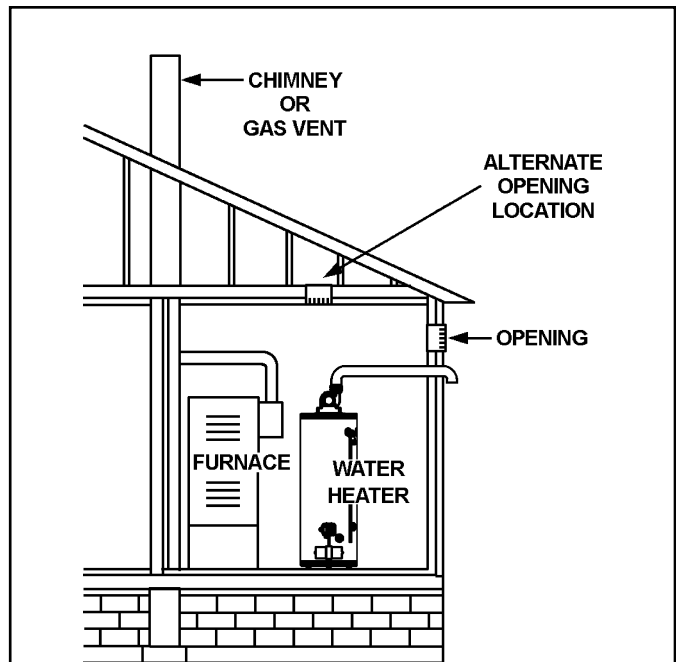

Figure 21
5. Alternatively a single permanent opening may be used when communicating directly with the outdoors, or with spaces that freely communicate with the outdoors. The opening shall have a minimum free area of 1 square inch per 3,000 Btu/hr (8.3 cm²/kW) of total input rating of all equipment in enclosure (see Figure 21).